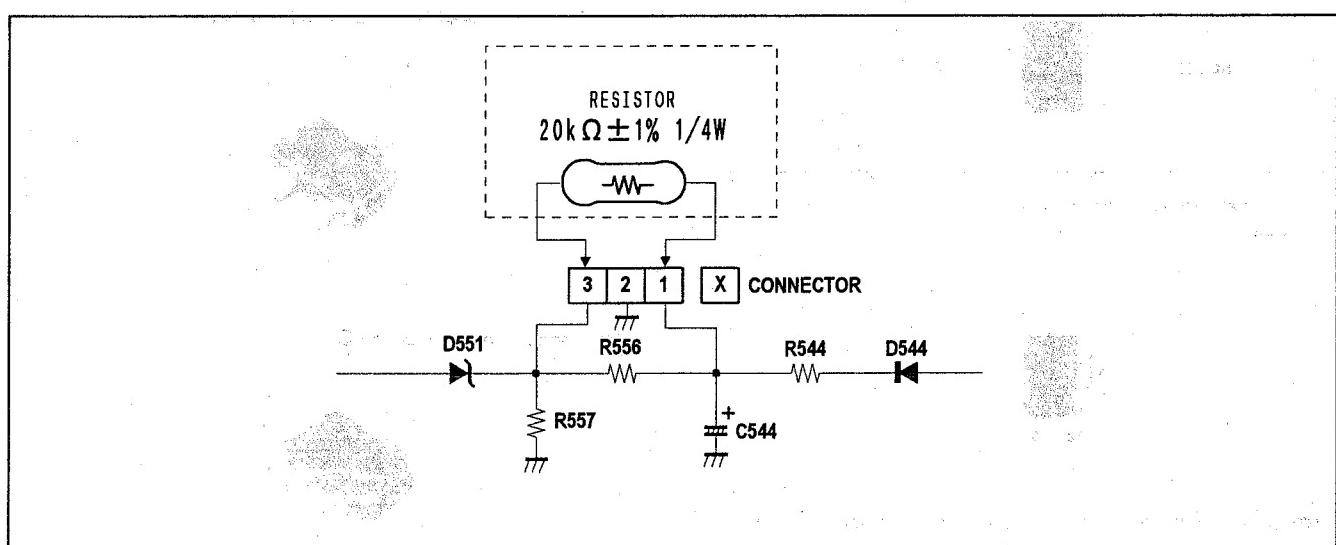

Fig. 2
- (1) Turn the POWER SW ON.
- (2) As shown in Fig.2, set the resistor (between X connector [1] & [3]).
- (3) Make sure that the screen picture disappears.
- (4) Temporarily unplug the power cord.
- (5) Remove the resistor (between X connector [1] & [3]).
- (6) Again plug the power cord, make sure that the normal picture is displayed on the screen.